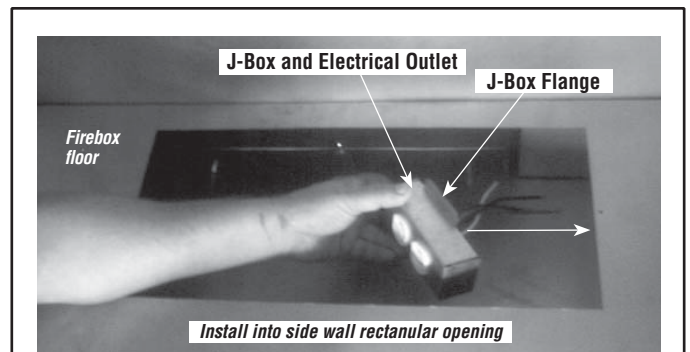

Figure 17
- Squeeze the J-Box flanges together to fit into the opening shown in **Figures 17 and 18**.